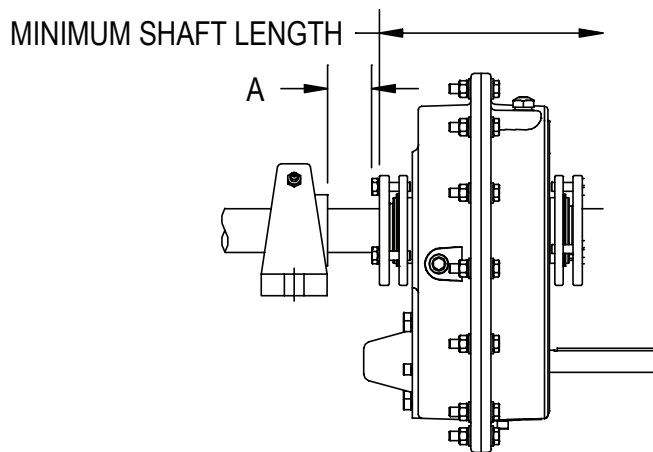

Figure 5 - Minimum Recommended Dimensions
- One bushing assembly is required to mount the reducer on the driven shaft. An assembly consists of two tapered bushings, bushing screws and washers, two bushing backup plates and retaining rings, and necessary shaft key or keys. The driven shaft must extend through the full length of the reducer. If the driven shaft does not extend through the reducer do not use the standard tapered bushings; instead use the short shaft bushings as described in the Short Shaft Bushings section that follows. The minimum shaft length, as measured from the end of the shaft to the outer edge of the bushing flange (see Figure 5), is given in Table 1.
1. One bushing assembly is required to mount the reducer on the driven shaft. An assembly consists of one long tapered bushing, one short tapered bushing, one tapered bushing wedge, bushing screws and washers, two bushing backup plates and retaining rings, and necessary shaft key or keys. The driven shaft does not need to extend through the reducer for the short shaft bushing to operate properly. The minimum shaft length, as measured from the end of the shaft to the outer edge of the bushing flange (see Figure 5), is given in Table 1.